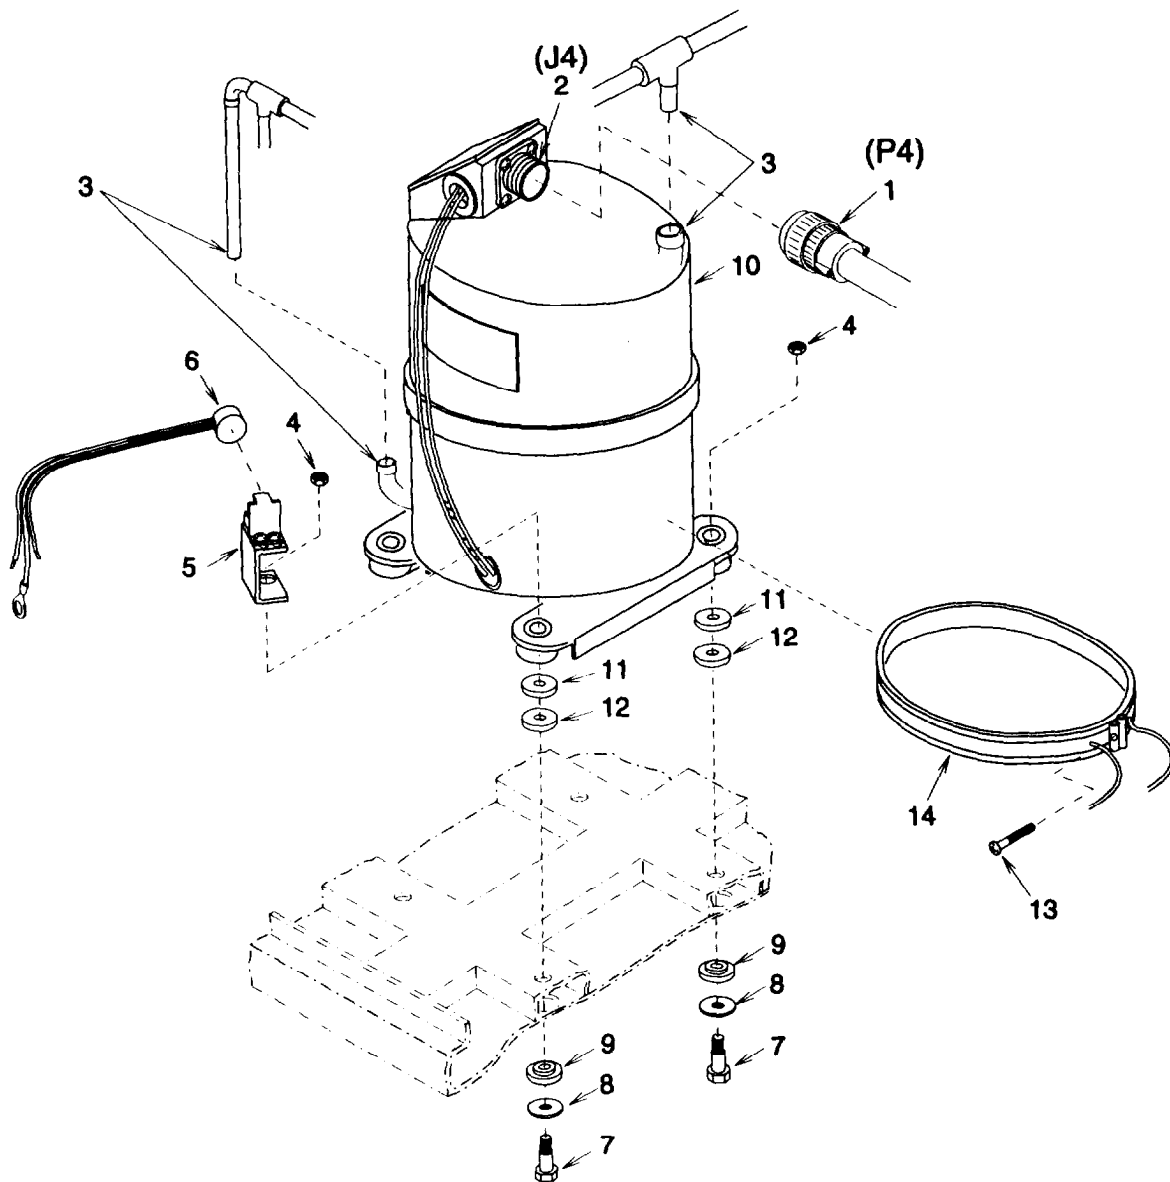

Figure 4-24. Compressor Assembly
- (c) Tag and disconnect wiring harness connector P4 (1) Figure 4-24 from connector J4 (2).
- (e) Debraze the compressor fittings (3). See paragraph 4-14.
- (f) Remove four nuts (4), bracket (5), thermostatic switch (6), four screws (7), flat washers (8), and shouldered washers (9).
(1) Compressor Assembly.
- (a) Transfer any refrigerant tubing remaining on the old compressor (10) Figure 4-24 that is not on the new one.
- (b) Install compressor heater (14) and screw (13).
- (c) Install four shouldered washers (12) and flat washers (11).